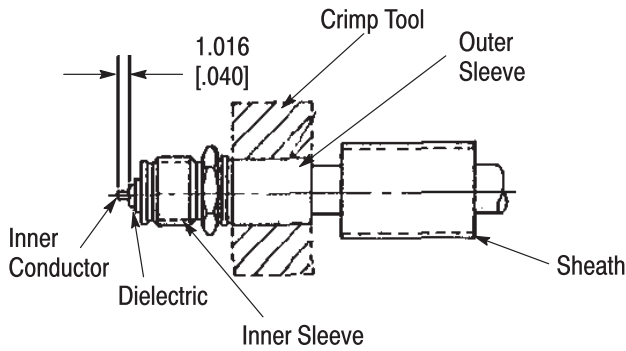

Figure 4
8. Hold the cable firmly and crimp the outer sleeve to the braid using 2.67 mm [.105 in.] hex die cavity. See Figure 4.